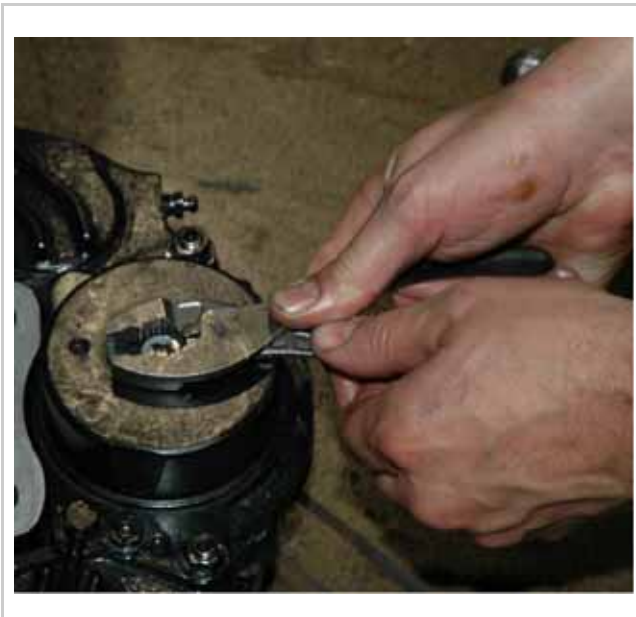

Fig. 31 (32402)
4. See Figure 31. Use a pliers to remove the plugs from the SAHR caps. Keep the plugs for later assembly.